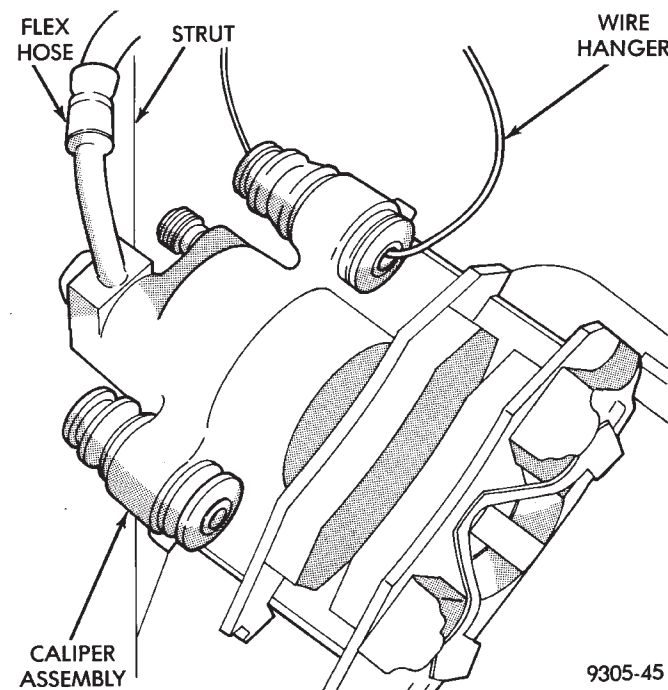

Fig. 1 Storing Rear Caliper Assembly
(2) Remove the rear wheel and tire assembly from the vehicle.
(3) If vehicle is equipped with rear disc brakes, remove the rear caliper assembly from the adapter. Refer to Rear Disk Brakes in Group 5 Brakes of this Service manual for required caliper removal procedure. After removing caliper assembly store caliper by hanging it from vehicle (Fig. 1). Do not let rear caliper assembly hang from flexible brake hose. If vehicle is equipped with rear drum brakes, remove the brake flex hose bracket from the support plate and wheel cylinder (Fig. 2).